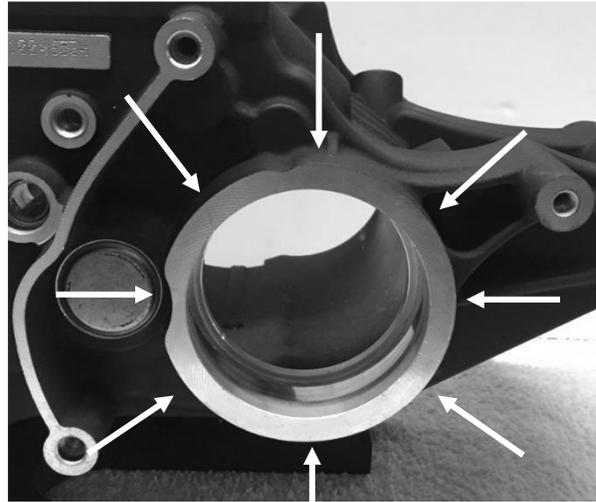

FIGURE 16 | APPLY HEAT AROUND THE MAIN DRIVE GEAR BEARING BOSS AREA
- The tapered bearing adapter is a press fit into the transmission case unlike the stock bearing which has a slip-fit. To ensure successful installation of the tapered bearing adapter and longevity of the installation tool, you must heat the transmission case as shown in figure 16. Use a MAP/propane torch or a heat gun as shown in figure 17.
- Apply heat evenly around the boss of the main drive gear bearing bore from the outside of the case as shown in figure 16. **DO NOT** heat the boss from the inside of the case (this could damage your speedometer sensor) and keep heat away from the tapered bearing adapter that is staged and ready for installation. The bearing bore boss should be heated to approximately 200 – 250°F.